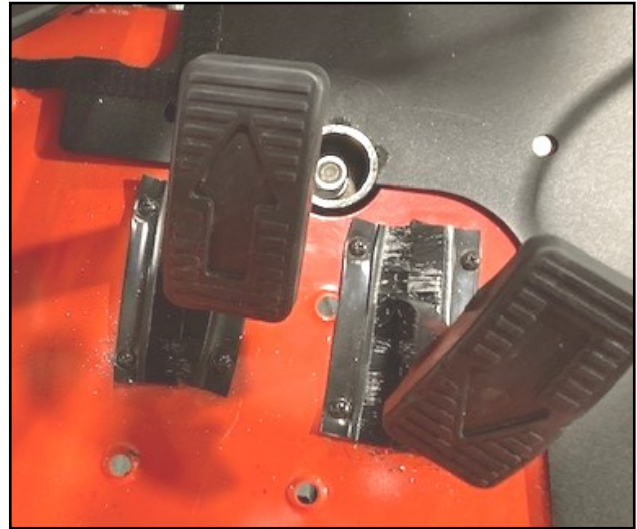

Figure 2.2 (Drive Pedal Seals)
- 2.2 Place one brush on the floorboard to either side of each pedal, with brushes overlapping, completely covering the slot in the floorboard. Secure with self-drill screws through the pre-drilled holes in the brushes. See Figure 2.2.